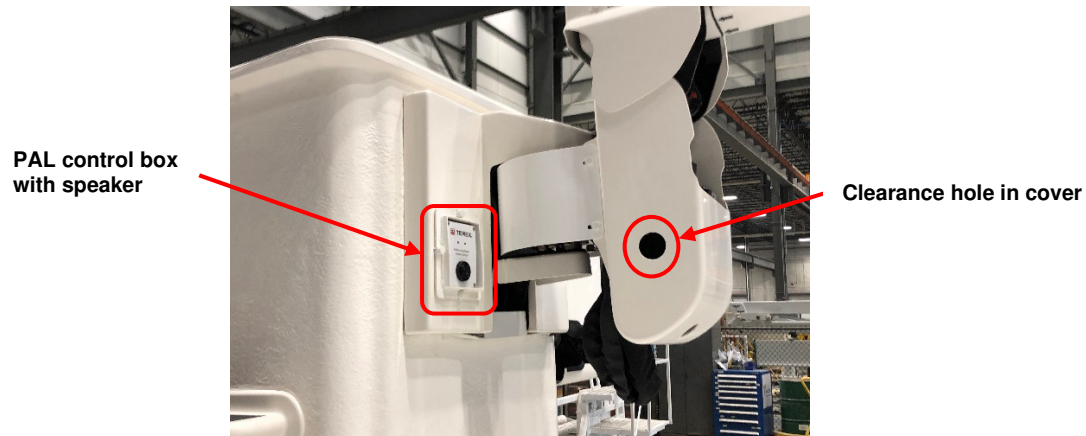

Figure 1. Clearance hole in cover
3. Inspect the unit to determine if it has a clearance hole in the rotator bracket cover for the PAL control box speaker as shown in Figure 1.